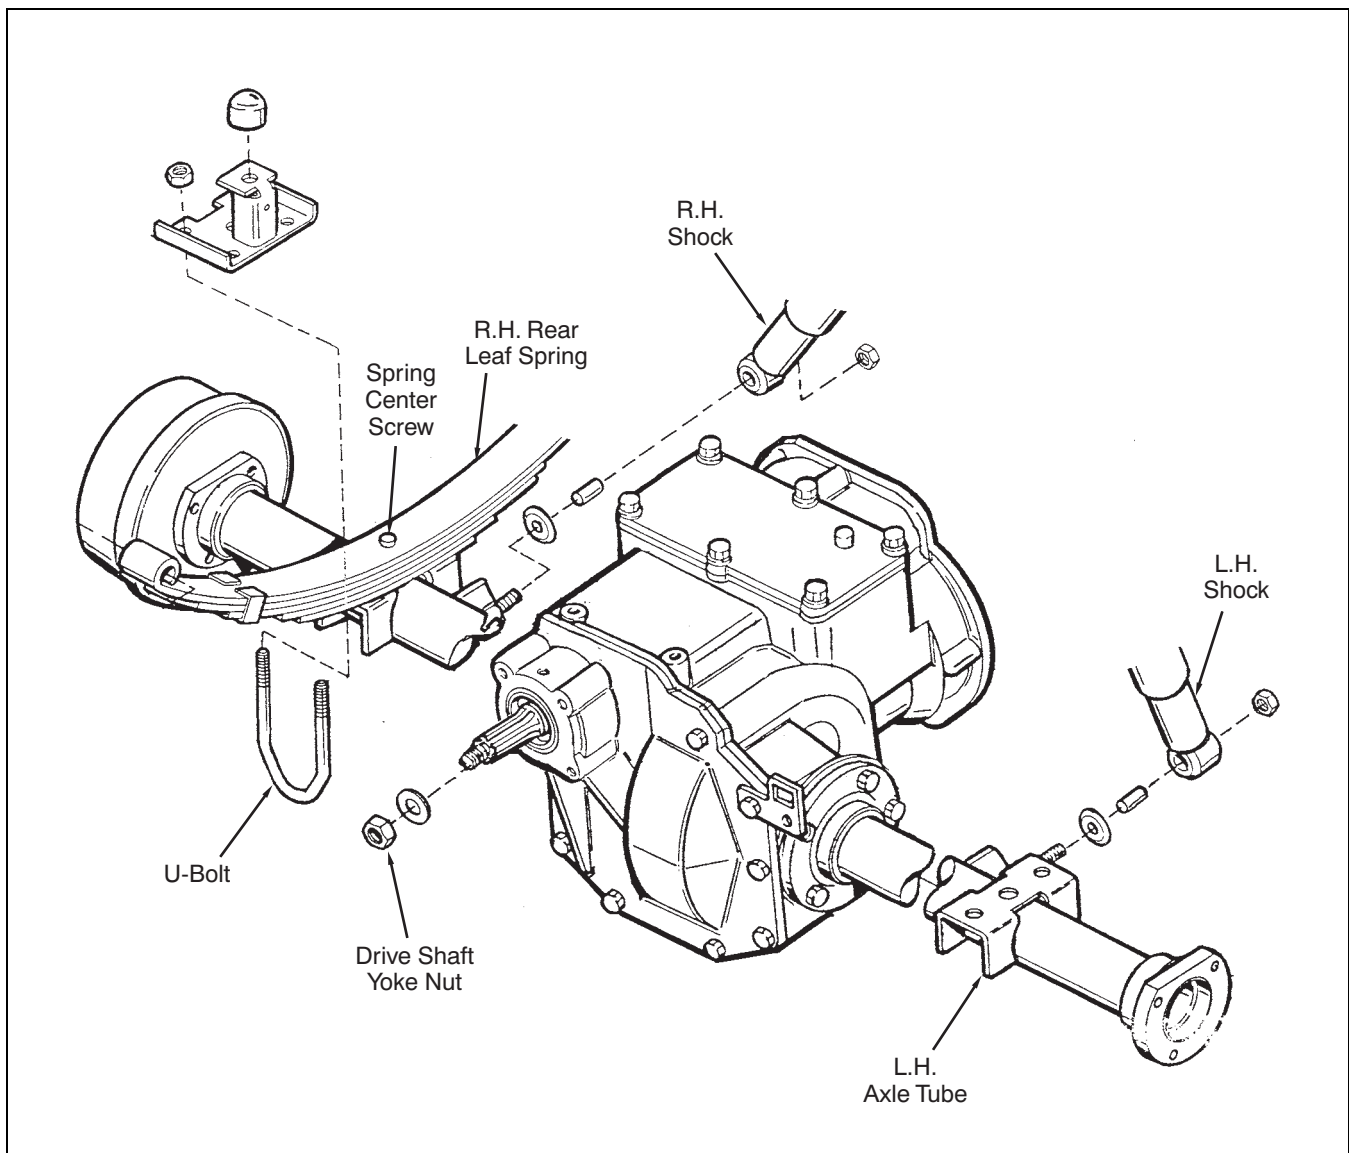

Figure 4K-2. Axle Housings and Differential
1. Refer to Figure 4K-3, replace the O-ring and oil seal. Lubricate the oil seal. The lip of the oil seal must face inward. Use a plastic tube or seal driver to seat the oil seal.
2. Pack the wheel bearing with clean grease (see SECTION 11). Reassemble the wheel bearing and collar being careful not to damage the oil seal (see Figure 4K-3). The bearing cup should be to the differential housing side.
3. Refer to Figure 4K-2, install U-bolts and shocks on axle tubes. Torque as shown in Figure 4K-2.